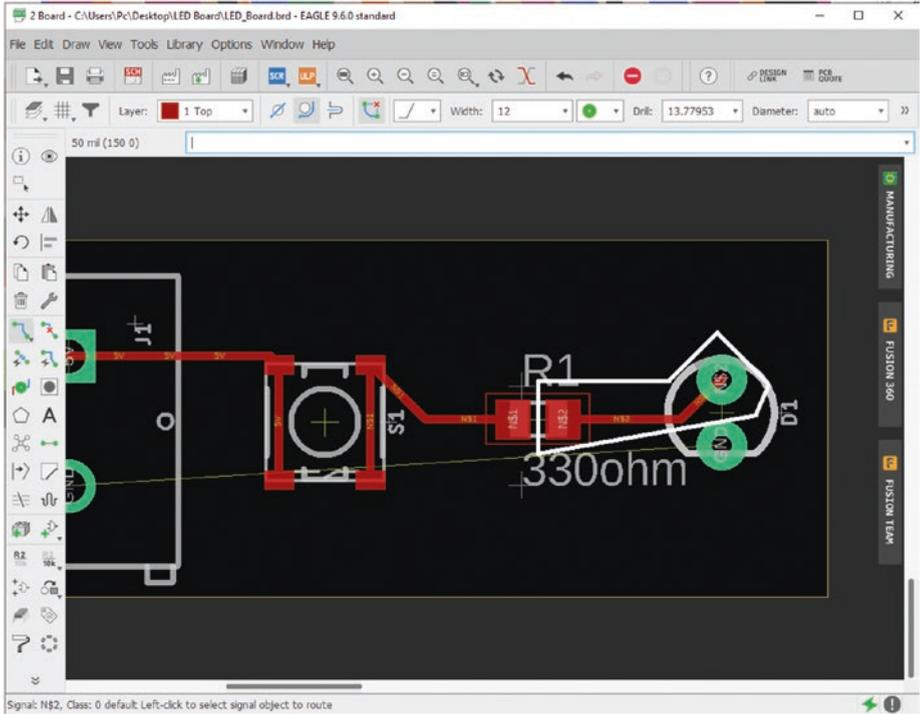

Figure 5-75. Connect resistor to LED
- Next, left-click the right contact of the resistor and connect the other end to the top contact of the LED (D1). See Figure 5-75.